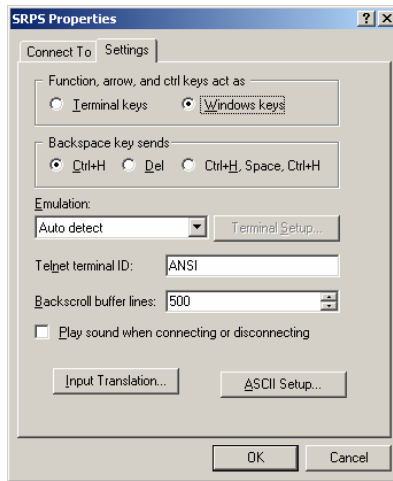

Figure 10 Settings tab
11. Click File/Properties, Settings tab. Figure 10 appears.
12. Ensure the values are as set out in Figure 10. Check **Windows keys** and select **Auto detect** for Emulation.